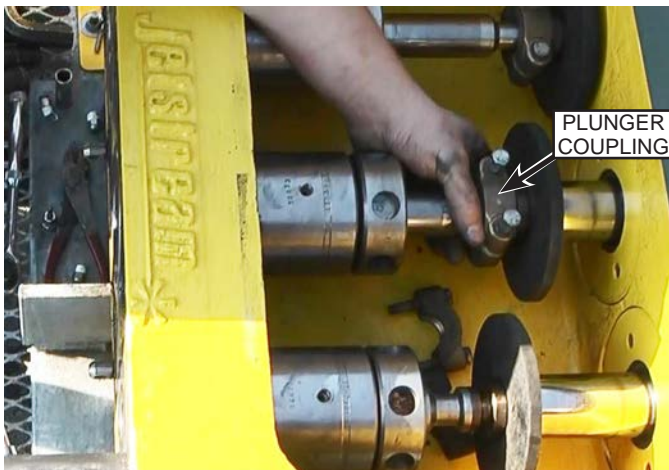

Fig. 51: Plunger Coupling Installation
15. Extend the plunger from each stuffing box until it mates with the opposing crosshead pony rods. Install the plunger coupling (Fig. 51) on each plunger and secure with the two bolts. Tighten the bolts to 20 ft.-lb.(27 N·m).